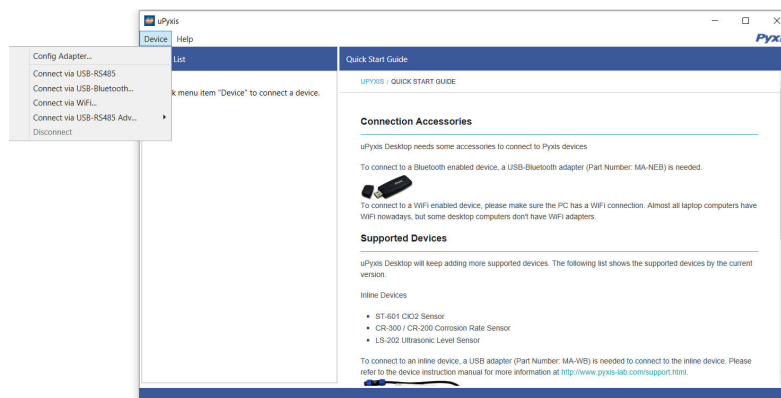

Figure 14.
3. On **uPyxis®** Desktop App, click Device→ **Connect via USB-Bluetooth** or **Connect via USB-RS485** (Figure 14).
4. If the connection is successful, the ST-730 Series and its Serial Number (SN) will be displayed in the left pane of the **uPyxis®** window.